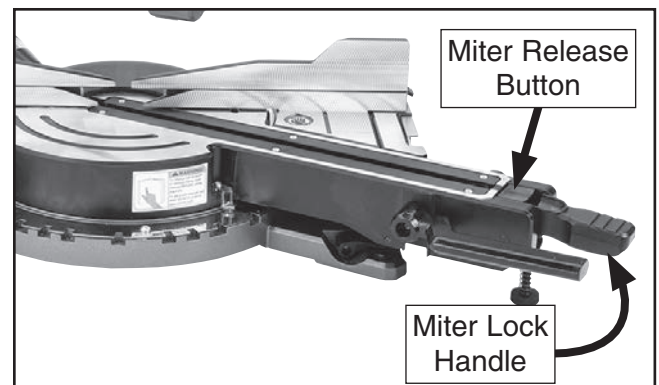
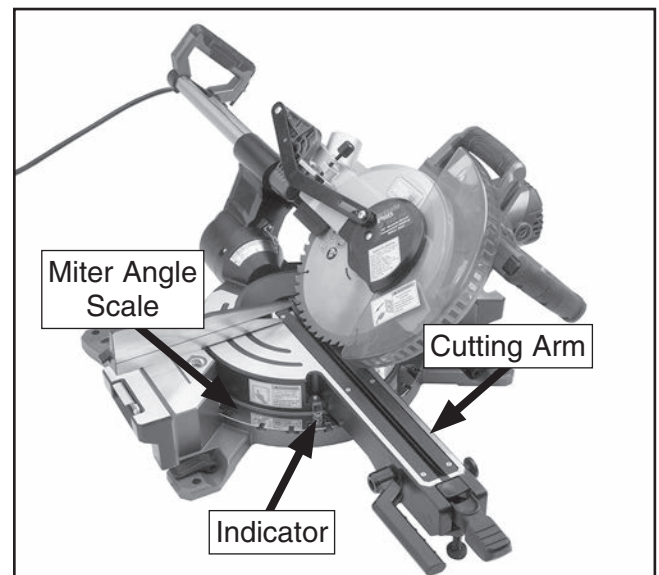

Figure 13. Miter lock handle in unlocked position.
Figure 14. Miter angle adjusted to 0°.
1. Lift miter lock handle to unlock table position (see Figure 13).
2. Press and hold miter release button (see Figure 13) and use miter lock handle to push cutting arm until miter angle indicator displays 0 degrees (see Figure 14).